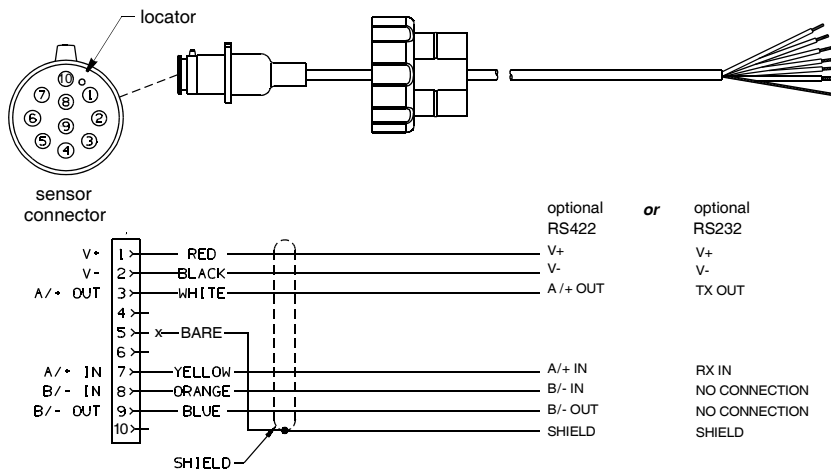

Figure 4. NMEA 0183 sensor cable
If your sensor cable does NOT have a connector on the display end, it must be hard wired. Referring to the owner's manual that came with your display, connect the colored wires as show in Figure 4.
**CAUTION:** Your sensor has either an RS-422 or RS-232 standard. You must follow the wiring diagram in Figure 4 that matches your sensor. If it is wired for the wrong standard, it will not transmit and receive data properly.
2. Strip 60 mm (2-1/2") of the outer jacket and foil shielding from the cut end of the cable (Figure 4).